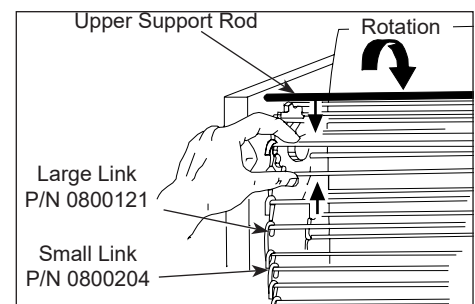

Figure 8. Removing Conveyor Belt Chain
9. Disconnect the chain by squeezing any two links together and unhook the links from each other (Figure 8). Needle-nose pliers may be used.
5. Disconnect the Conveyor Belt Chain by squeezing any two links together and unhook both ends of one link (Figure 8). Repeat on other side.
6. Place the new chain on the top sprockets with hook ends down. (Figure 8)